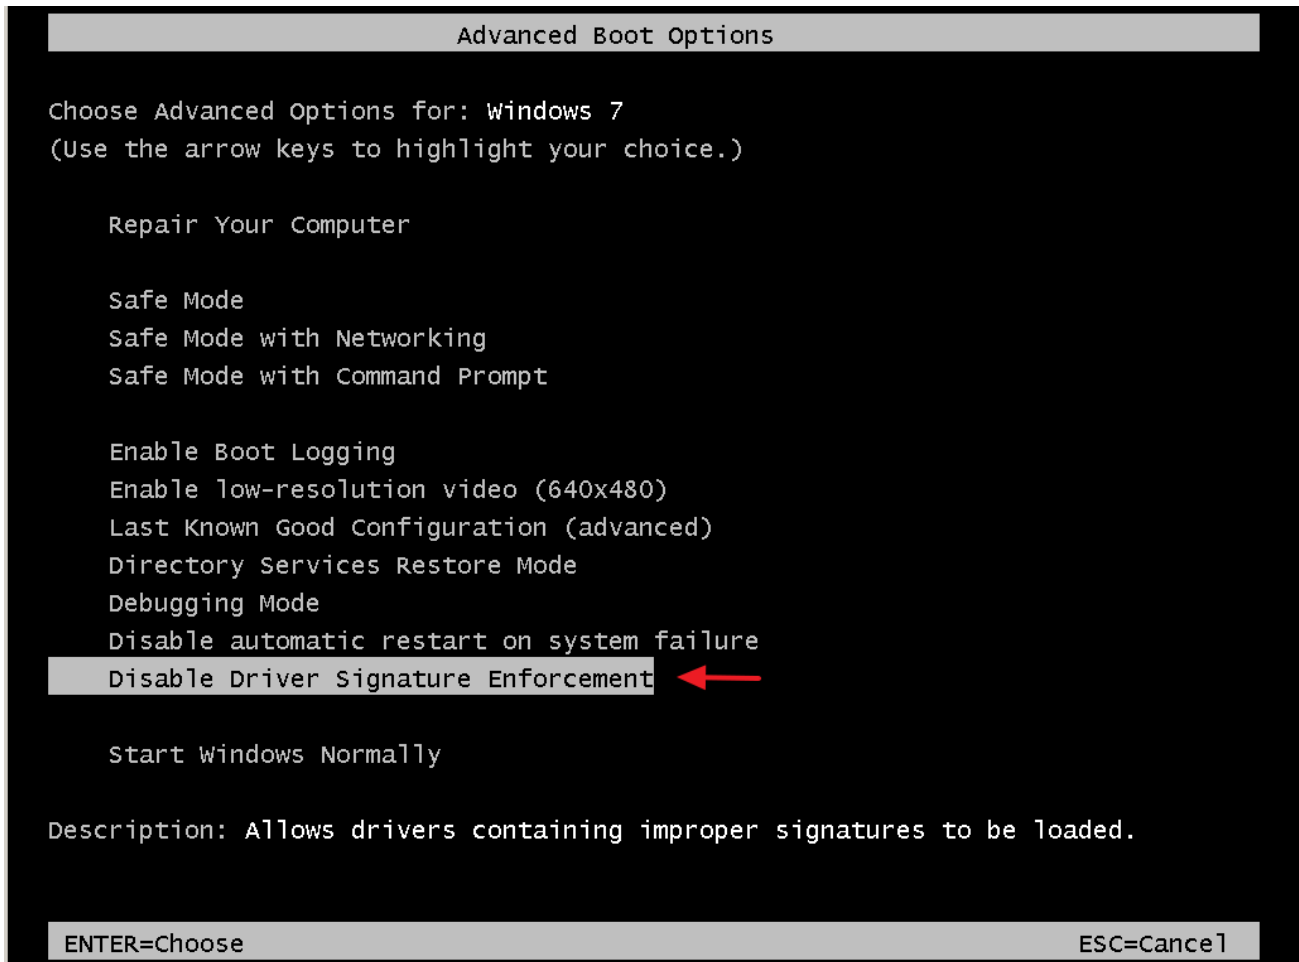

Figure 6.1. Advanced Boot Options
3. Restart computer. Press the **F8** key on keyboard to enter Advanced Boot Options window. Refer to Figure 6.1.